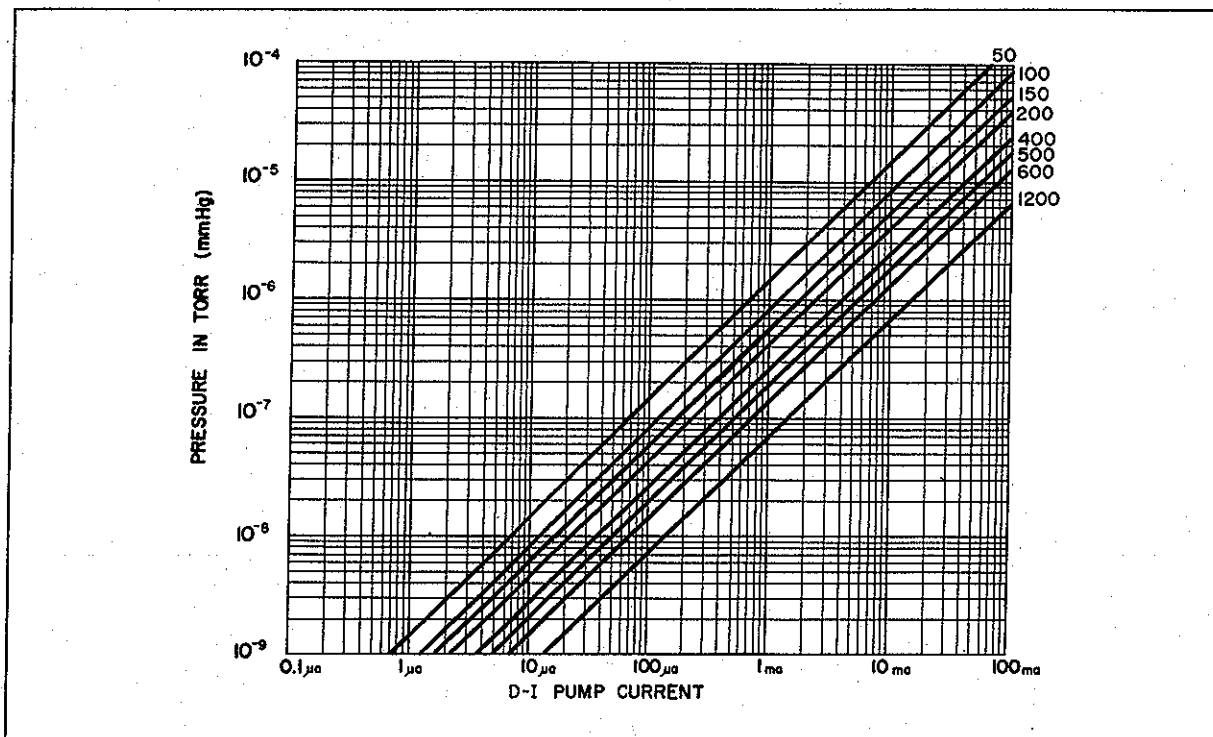

Figure 5. Current-to-Pressure Conversion Chart
When voltage is constant, the pressure in the pump may be obtained by reading the current and then converting it to pressure by means of the chart in Figure 5. The relationship between current and pressure is normally very accurate, but will be erroneous if current leakage exists somewhere in the equipment. Alternately, pressure can be read directly in torr on the red logarithmic torr scale, provided the torr circuit is adjusted for use with the corresponding pump.
- D. From the conversion chart of Figure 5, determine the current for 10^{-5} torr and 10^{-8} torr.